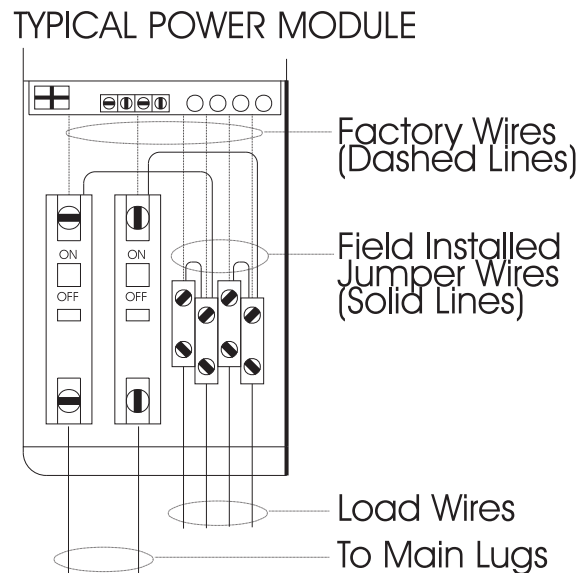

Figure 11
Step 3. If it is necessary to bypass the system to provide circuit breaker control, rewire the modules as shown in figure 11 below.